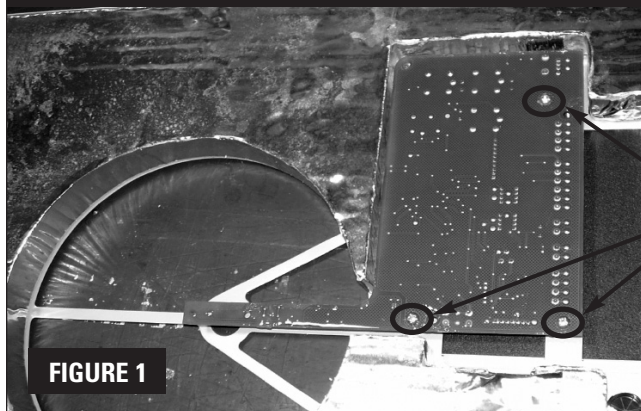

FIGURE 1
- A. Remove the (3) mounting screws from the control board. (See **Figure 1**)
- C. Disconnect the (2) frost sensor terminals from the control board.